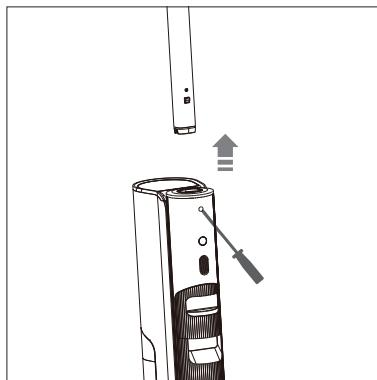

Fig. 20 – Removing the handle
- ▶ Use a suitable tool (e.g. a screwdriver) to press into the small opening below the handle and pull the handle upwards to remove it (**see Fig. 20**).